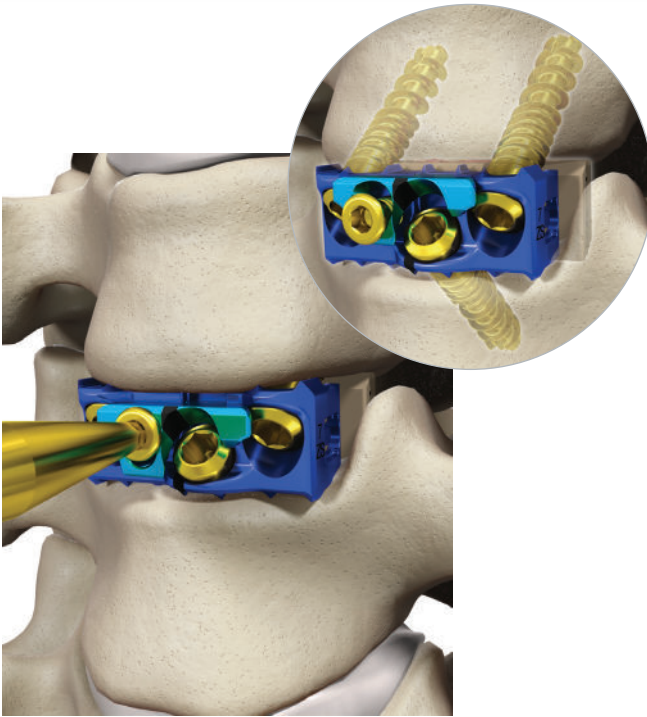

Figure 45
- Slide the teal locking cap using a forceps or other general surgical instrument to uncover all three bone screws (Figure 45).